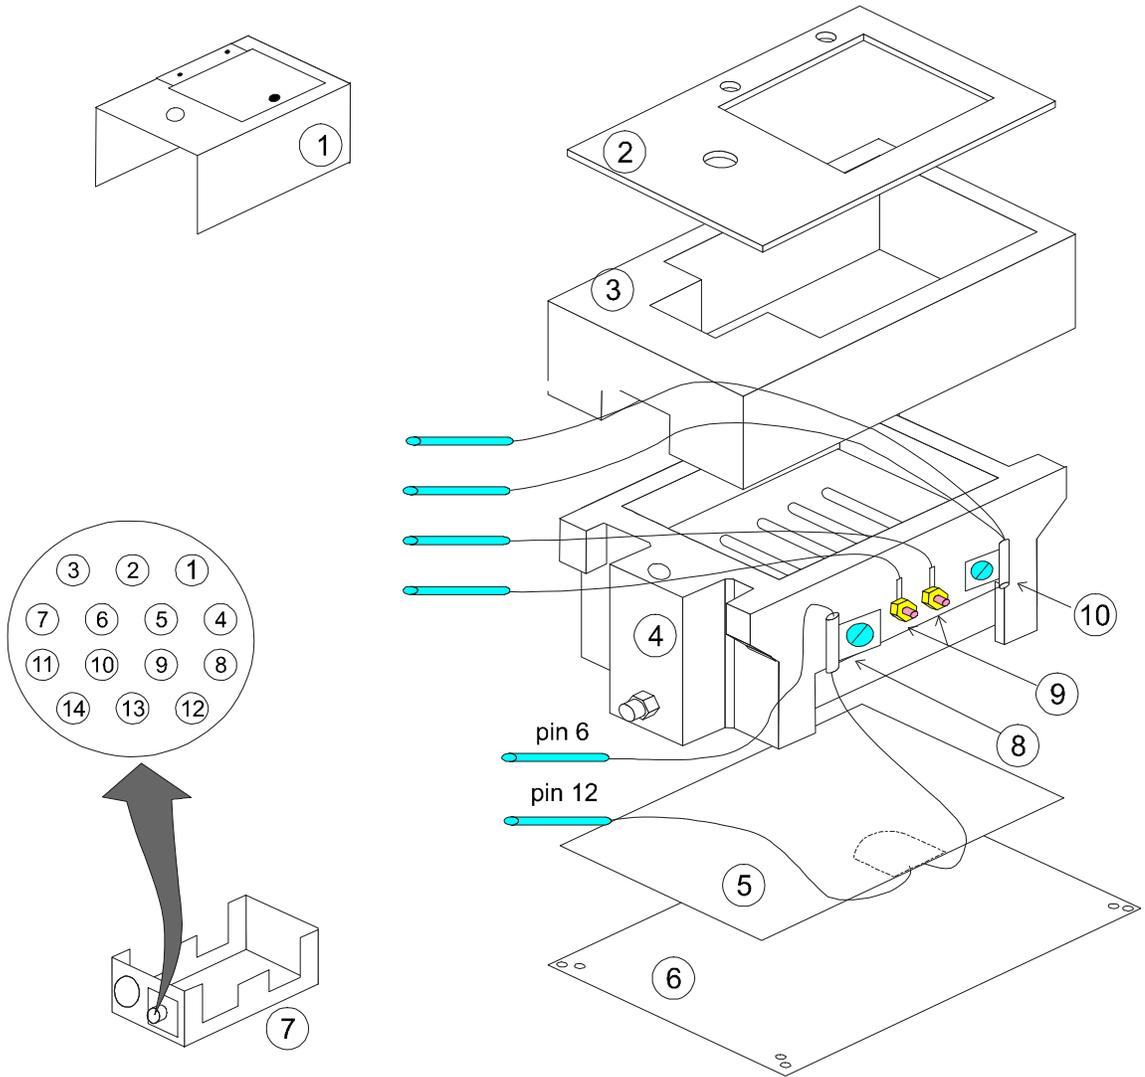
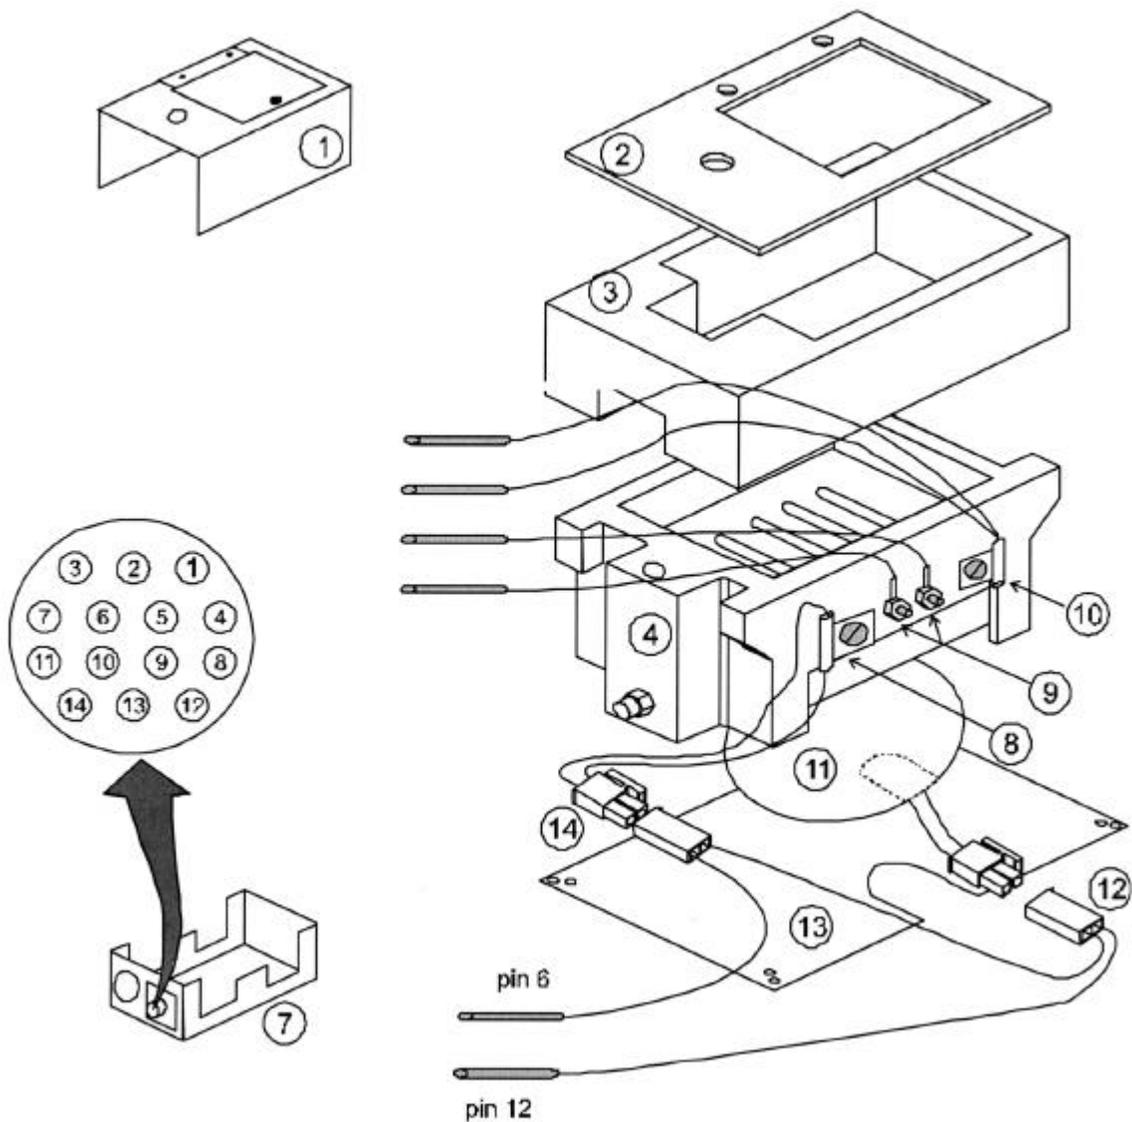

Figure 8-7
Figure 8-8
Refer to Figures 8-7 and 8-8 when using the following procedure. Should further clarification be required, contact your Support Representative.
4. Remove 8 screws on side of Wax System and remove housing cover (1).
5. Remove 4 screws on top insulator plate (2).
6. Remove insulator plate and carefully remove top insulation blanket (3) from around tank assembly (4).
9. Disconnect thermal fuse and heater cable assemblies (see Figure 8-8), if installed, and skip ahead to step 13. Otherwise, continue with the following steps.
11. Remove thermal fuse assembly (8) from side of tank.
Note: On systems manufactured before October 1997, the heater pad will be a soft rubber type material (Figure 8-7). Later versions will be the circular metallic heater assembly (Figure 8-8).
Refer to Figure 8-8 for the installation procedure.